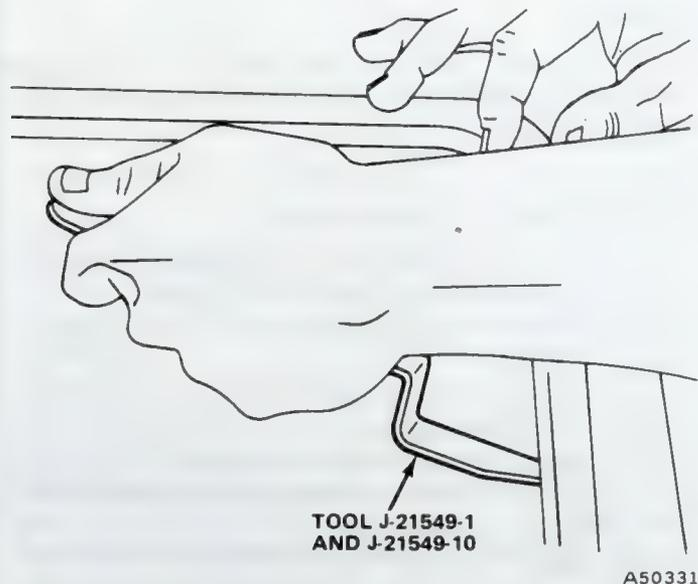

Fig. 3H-14 Removing Reveal Moulding
- (a) Insert tool between glass and moulding, parallel with glass (fig. 3H-14).